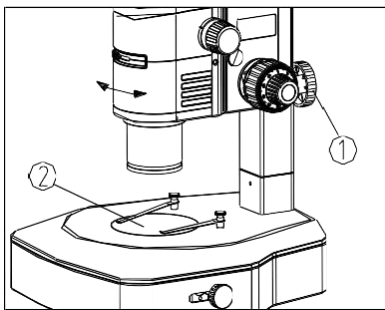

Fig. 11
- 1) Loosen the lock knob①, and rotate the microscope body and the focusing bracket group left and right.
- 2) Match the center of zoom body group with the center of worktable, then lock the lock knob①. (See Fig. 11)